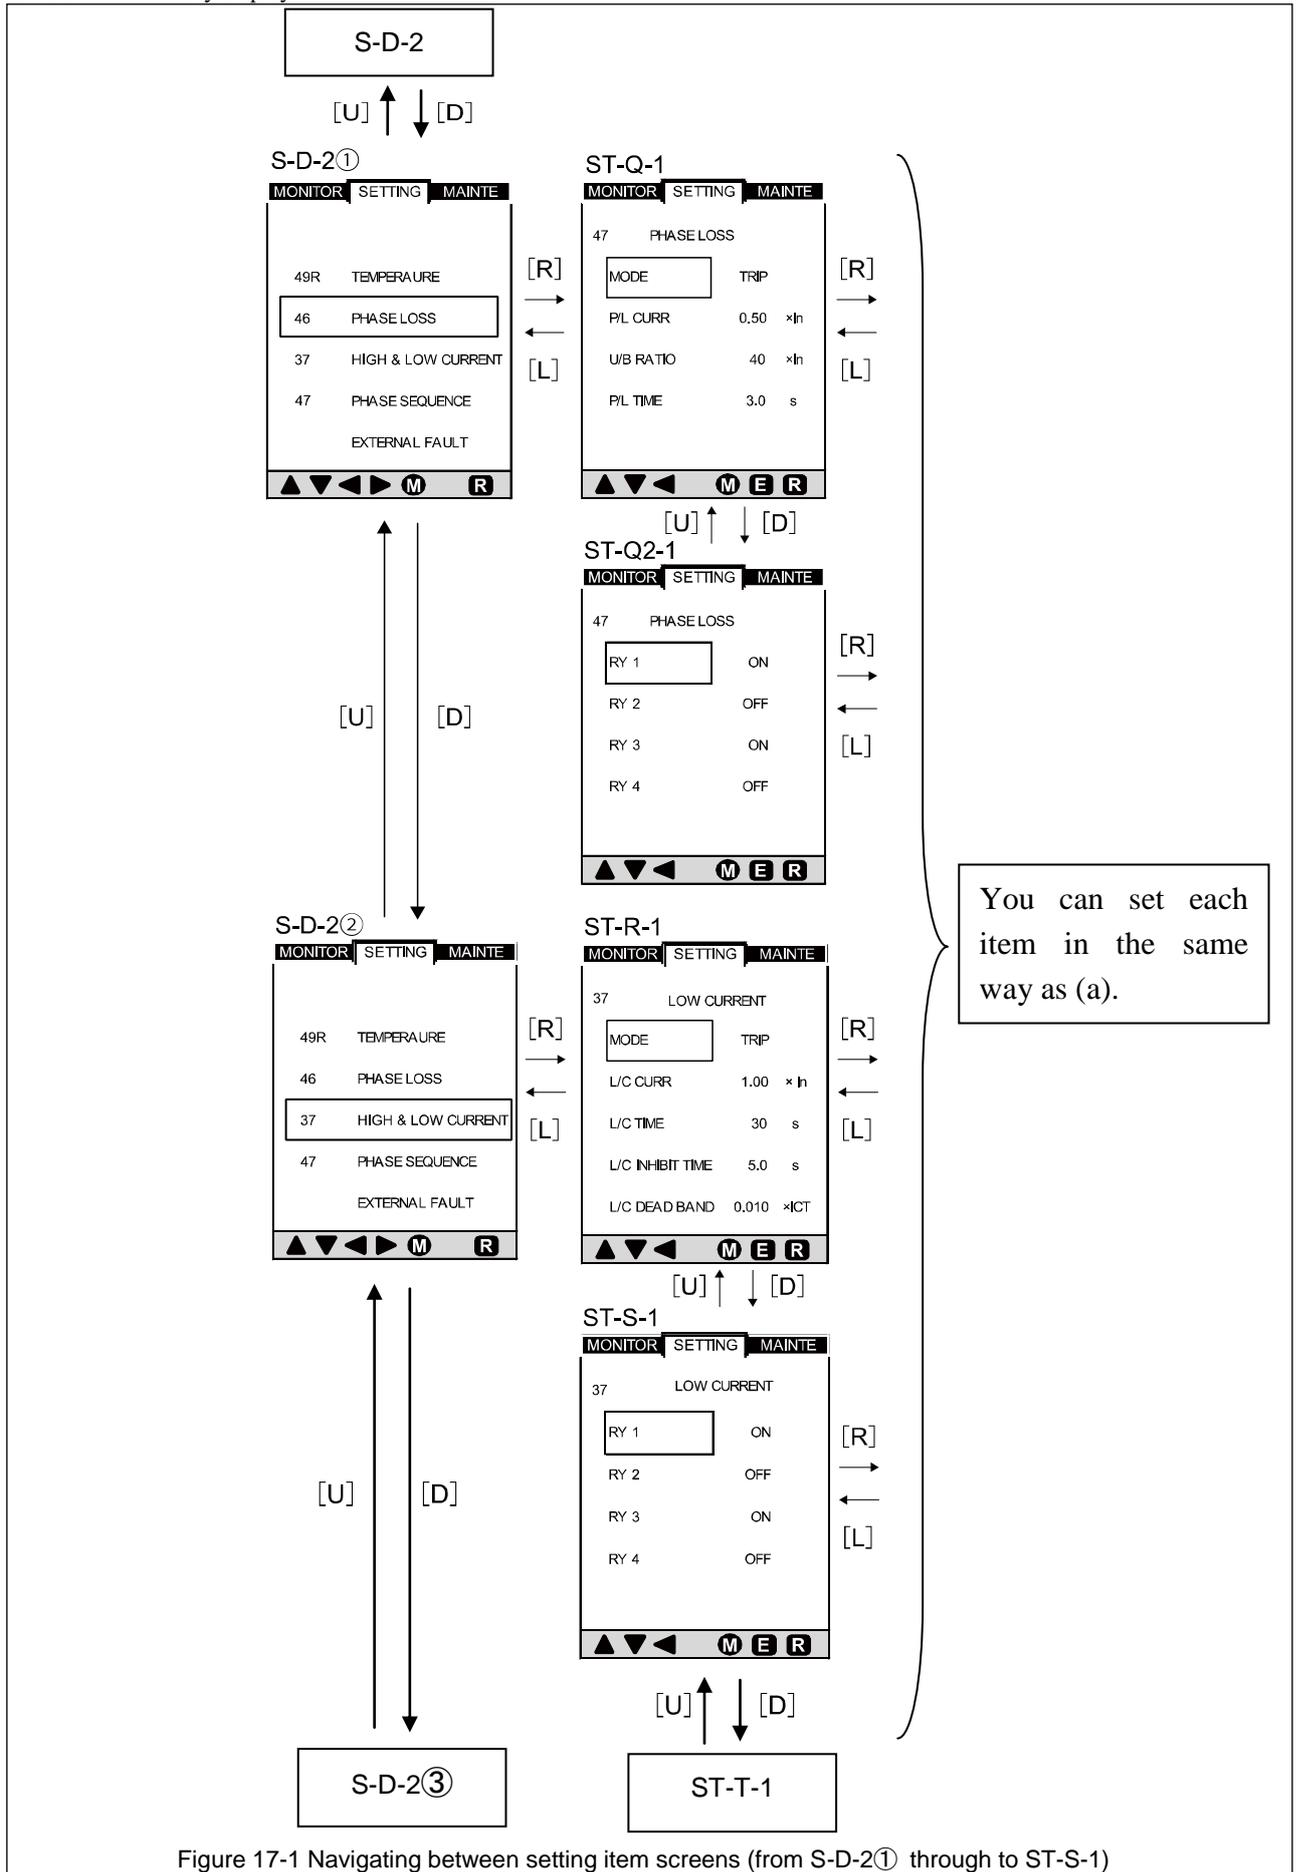

Figure 17-1 Navigating between setting item screens (from S-D-2① through to ST-S-1)
Figure 17-1 shows how to navigate between setting item screens (from S-D-2① through to ST-S-1). See Tables 12-1 and 12-2 for items that are actually displayed on the screen.